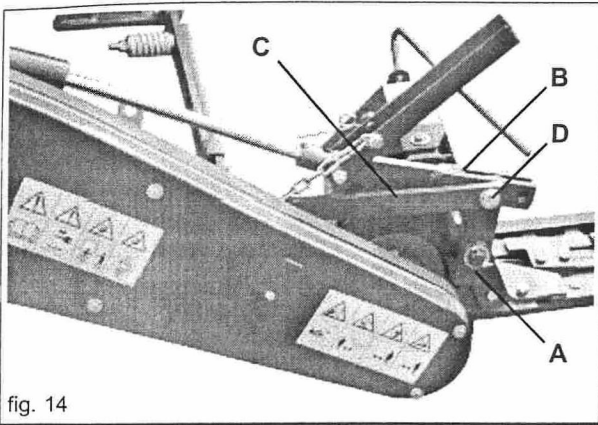

fig. 14
For mowing on flat ground, couple the lever (A) with tie rod (B) and the rod (C) in position (D) of Figure 14. Lastly insert the lifting device as described in the previous paragraph.